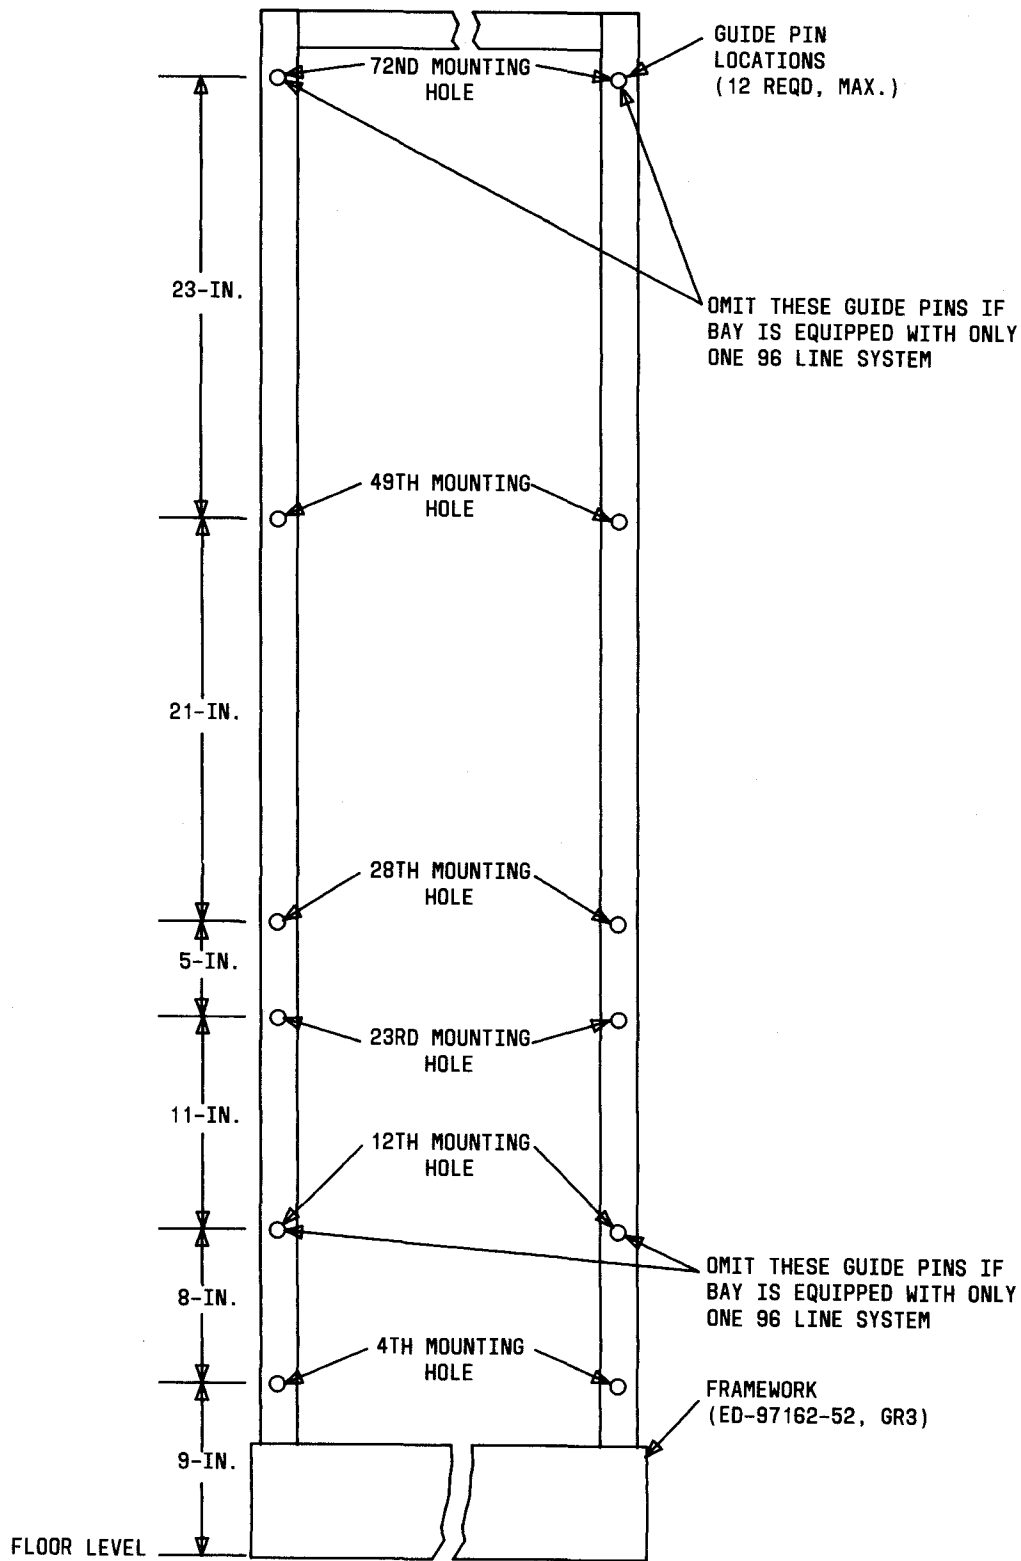

Fig. 1—Guide Pin Locations
3.01 Install the guide pins, furnished with each shelf, on both frame uprights at the locations shown in Fig. 1.